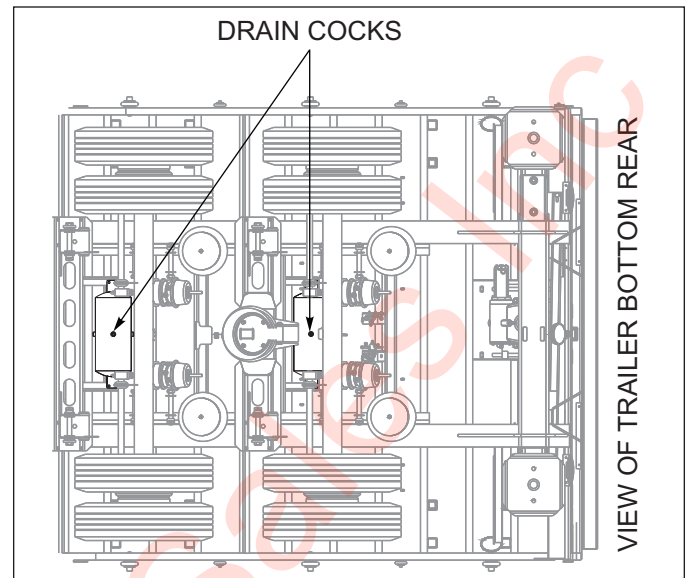

Figure 5-15: Drain Cock Locations
4. Drain air reservoir daily. A drain cock on the bottom of each air reservoir vents the tank to drain collected water and oil. If held open, air pressure in the tanks is relieved, causing the emergency or parking brakes to be applied. *See Figure 5-15.*